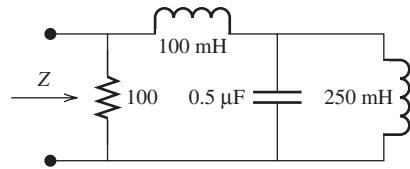

FIGURE P6.23 Circuit for Problem 6.23.
- 6.23 (A)** If $\omega = 600$, find Z in Figure P6.23.